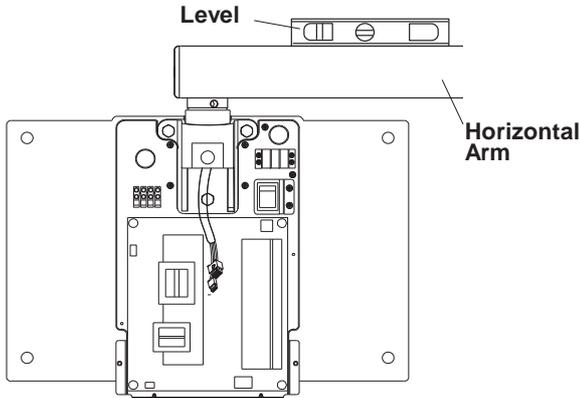

Fig.3-7 Level confirmation
4. Place a level on the horizontal arm and confirm that the arm is level throughout its left and right swing positions. **(Fig.3-7)**